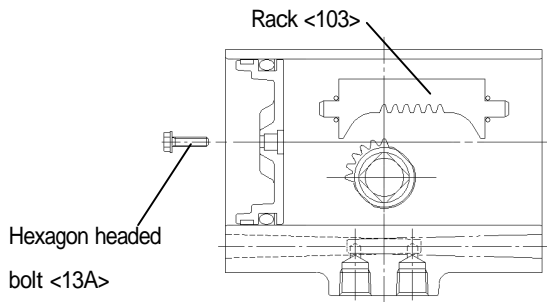

Fig.5
(7) Rotate the shaft and move another piston toward the end cover opening. Loosen a hexagon headed bolt and remove the second piston from the housing. Also remove a gear rack (**Fig.5**).